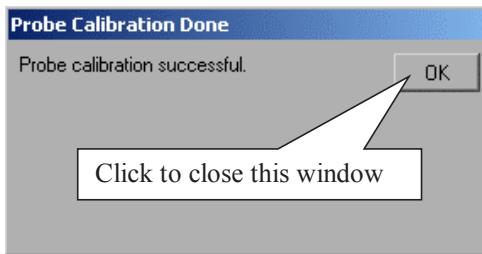

Figure 119 Calibration Window.
- 10 Referring to Figure 119 below, perform the following steps: